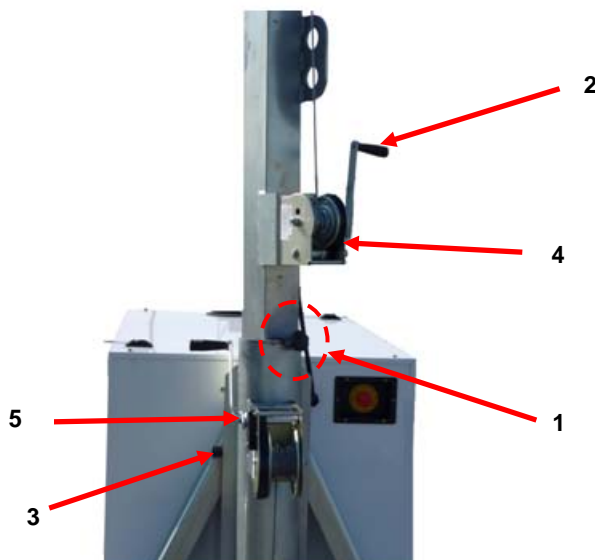

Figure19: Lowering the column
- ❸ Lock the column to stop it rotating using the corresponding pivot (Fig.19 no.1), then turn the handle (2) on the crank (4) with automatic brake anticlockwise until all the telescopic sections enter the first section.
- ④ Release the lower safety lock (Fig. 19 no.3) by pulling it, and lower the telescopic column simultaneously using the crank handle with automatic brake (Fig. 19 no.5), then release the safety pivot and guide the column down.